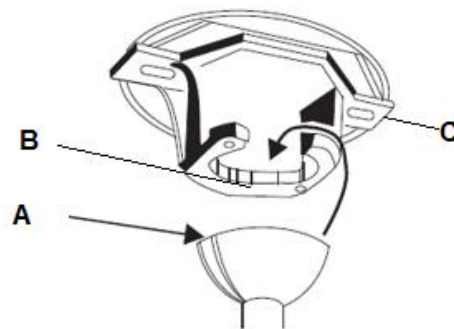

Fig. 6
Lift the fan assembly onto the mounting bracket. Ensure the key slot (A) of the hanger ball is positioned on the key pin (B) of the mounting bracket (C) to prevent the fan from rotating when in operation. (Fig. 6)